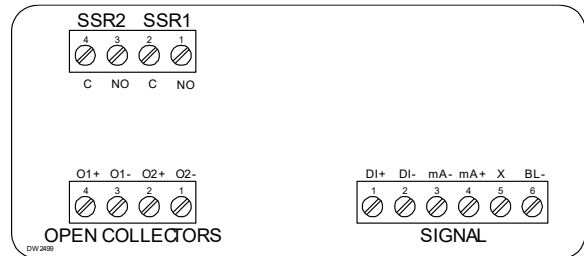
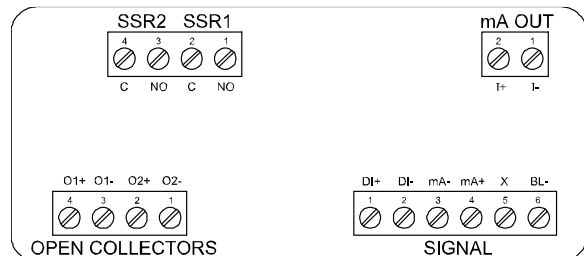

Figure 6. Connector Labeling for PD662#-L2N with 2-Solid State Relays
Figure 8. Connector Labeling for PD662#-L5N with 2 Solid State Relays & 4-20 mA Output
Relay connections are made to a four-terminal connector labeled SSR1 and SSR2 on *Figure 6*. *Connector Labeling for PD662#-L2N with 2-Solid State Relays* and *Figure 8*. *Connector Labeling for PD662#-L5N with 2 Solid State Relays & 4-20 mA Output* on page 20. Each relay's C terminal is common only to the normally open (NO) contact of the corresponding relay.